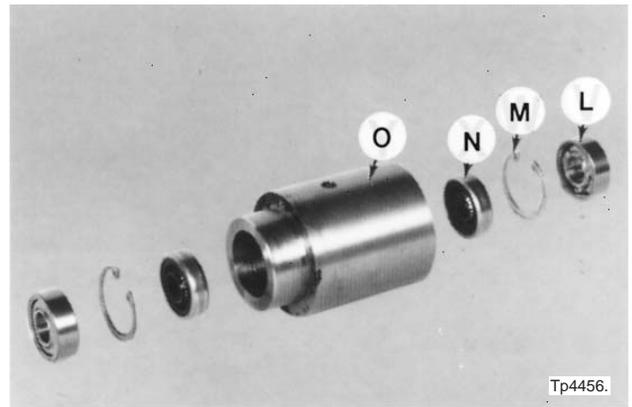

Figure 3.50 - Worm Wheel Housing and Components
22. Remove bearings "L", Figure 3.50, snap rings "M", and seals "N" from housing "O".
1. Replace seals "N", Figure 3.50, snap rings "M", and bearings "L" in housing "O".